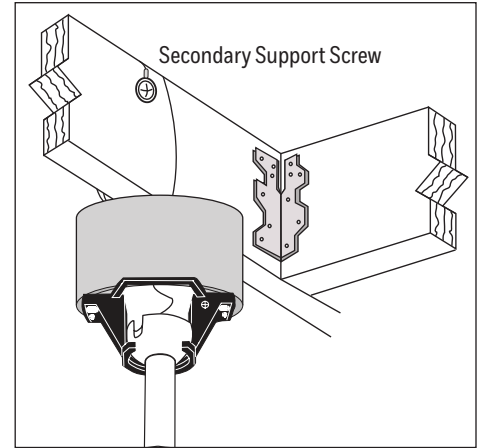

Figure 4.3
3. Tighten the secondary support screw, securing the braided cable (Figure 4.3).